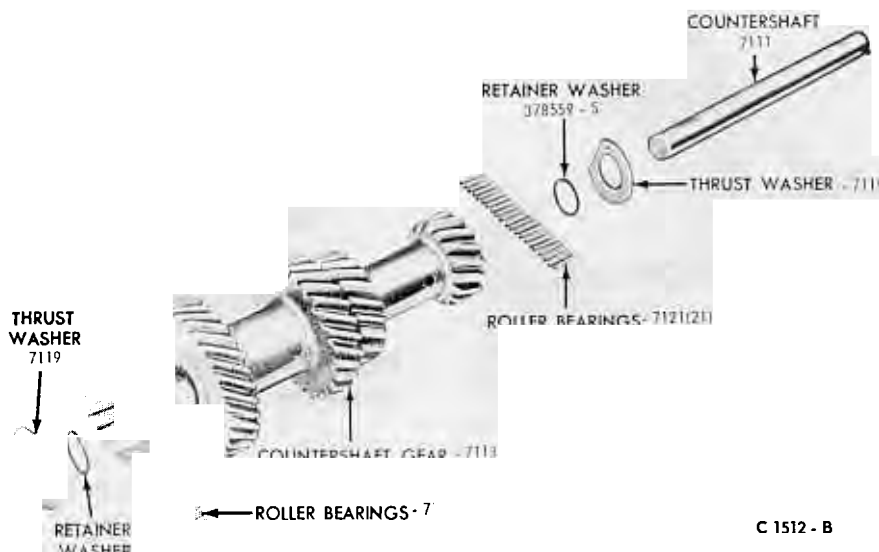

FIG. 17—Countershaft Gear Disassembled
1. Remove the dummy shaft, two bearing retainer washers, and the 21 roller bearings (Fig. 17) from each end of the countershaft gear.
thrust surfaces in the case with a thin film of lubricant and position a thrust washer (Fig. 17) at each end of the case.